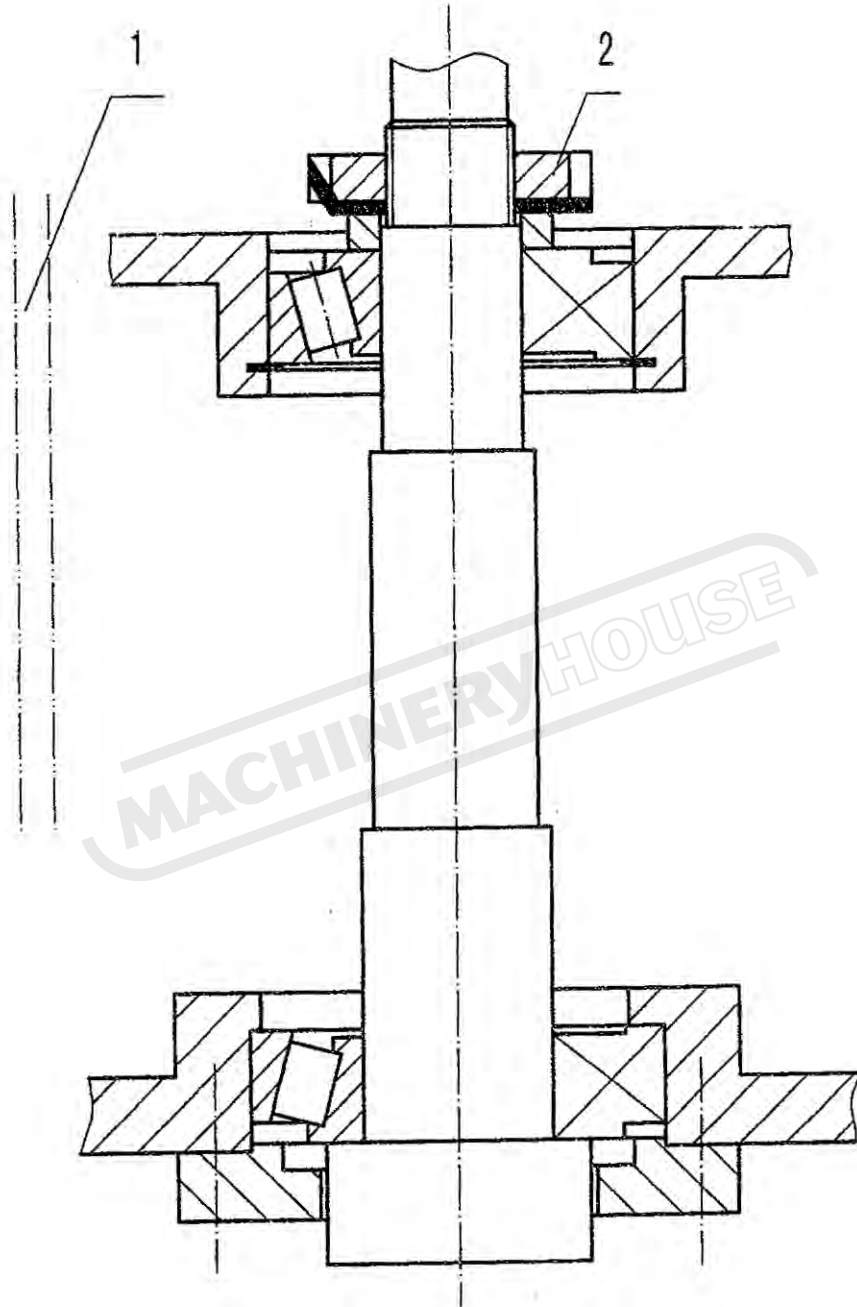

Fig. 4
<p style="text-align: center;">VIII. Adjustment of machine</p> <p>1. Adjustment of backlash of spindle bearing. (Fig.4)</p> <p>Backlash of spindle bearing has been adjusted to appropriate position before the machine leaves the factory. Long time use of machine will cause natural wearing of spindle bearings and backlash will increase. Please ask machinist to adjust it.</p> <p>First remove plate ① on the right side of the column. Adjust round nut ② to make backlash of spindle bearing proper, then replace plate ①.</p> <p>2. Adjustment of longitudinal, cross guideways gibs of the table</p> <p>(1). Longitudinal gib adjustment: First loosen screw ① of gib's small end, adjust screw ② of gib's big end properly, then lock screw ① properly. (Fig.5.a).</p> <p>(2). Cross gib adjustment: Remove crumb board ②, loosen crew ① of gib's small end, adjust screw ③ of gib's big end to proper position, then replace crumbs board ②.(Fig.5.b).</p> <p>3. Adjust the backlash between the knee and the vertical guideway.</p> <p>Remove scrap board ③, loosen screw ① of gib's small end, then adjust the other screw ② of gib's big end to proper position, then replace and tighten scrap board ③ (Fig.5.c)</p> <p>4. Ram adjustment : Ram adjustment is the same as the longitudinal gib adjustment.(Fig.5.d).</p> <p>5. Adjust the backlash between the lead screw and nut. (Fig.6)</p> <p>Longitudinal adjustment: First loosen fixed screw, adjust pin-shaft properly, then tighten fixed screw well.</p> <p>Cross adjustment: First, loosen screw (2), adjust screw (1) to proper position, tighten screw (1) with screw (2) finally.</p>